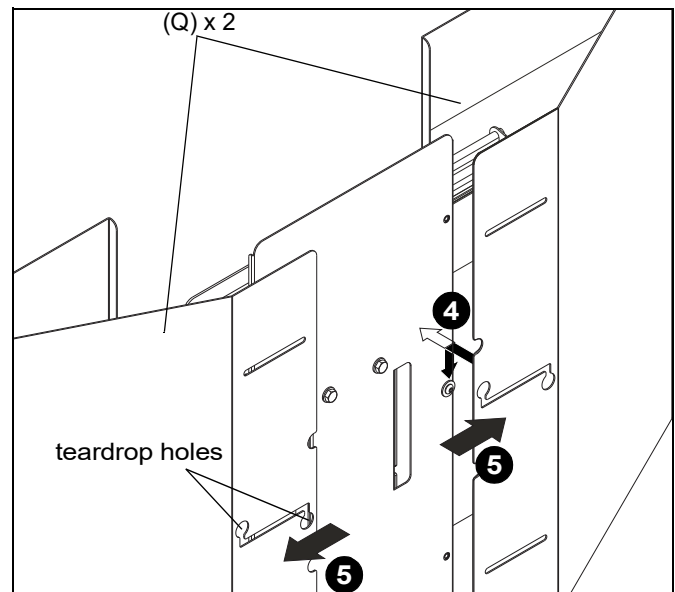

Figure 12
4. Hang two side wind shields (J) onto screws loosely installed in Step 3 using teardrop holes in center slots. (See Figure 12)
5. Slide wind shields (J) horizontally to desired mounting position. (See Figure 12)